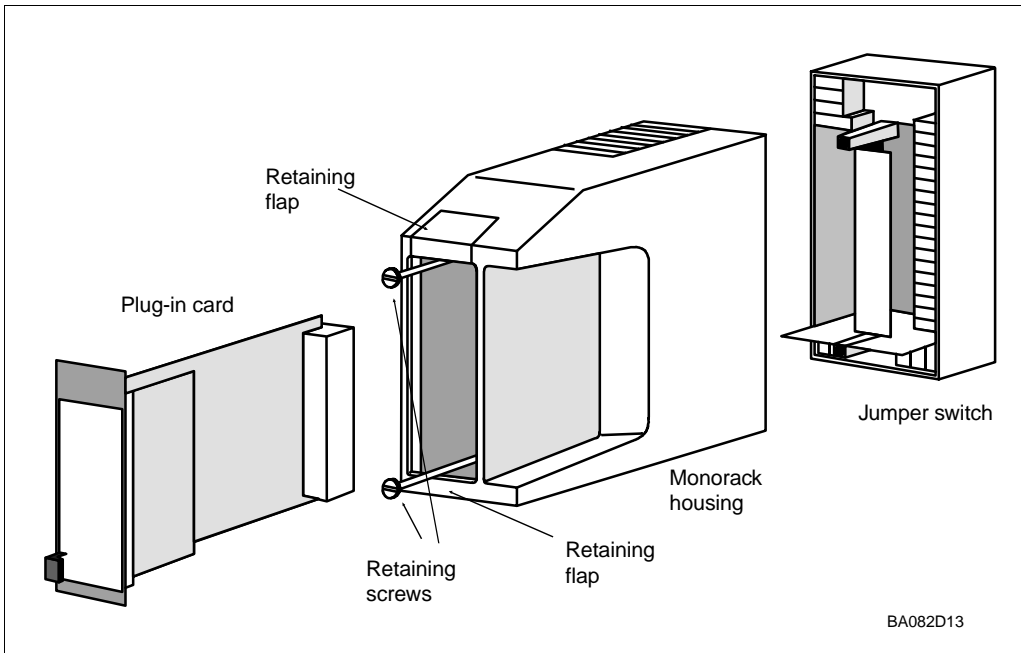

Fig. 2.10: Assembly and disassembly of the Monorack II housing
The Gammapilot FTG 671 transmitter and Monorack II housing are supplied separately. Before use, the system must be assembled as shown in Fig. 2.10.
- The Gammapilot FTG 671 cannot be installed in older versions of the Monorack housing. These can be identified by the lack of the jumper switch, see Fig. 2.10/2.17.
- When on, each switch is assigned the value shown in Fig. 2.10, inset.